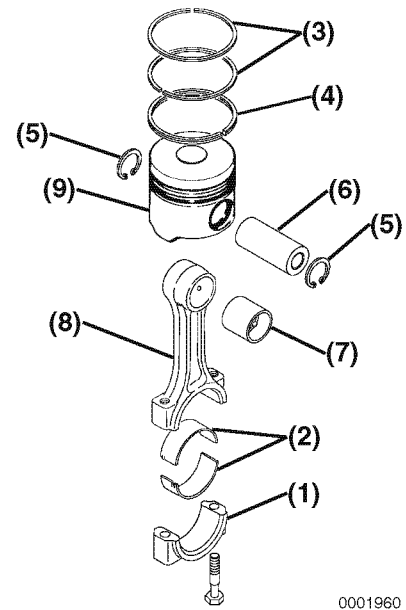

Figure 6-130
- If removed, install a new wrist pin bushing (**Figure 6-130, (7)**) using a press and the appropriate service tool. Be sure to align the oil holes.
- Reinstall one circlip (**Figure 6-130, (5)**) into the piston. Ensure the circlip is securely seated in the groove.